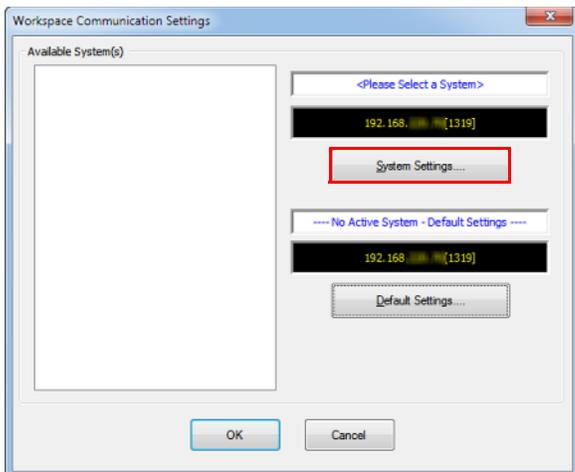

FIG. 15 NetLinx Studio - Workspace Communication Settings dialog
2. Select **Settings** > **Workspace Communication Settings** from the Main menu to open the *Workspace Communication Settings* dialog (FIG. 15):